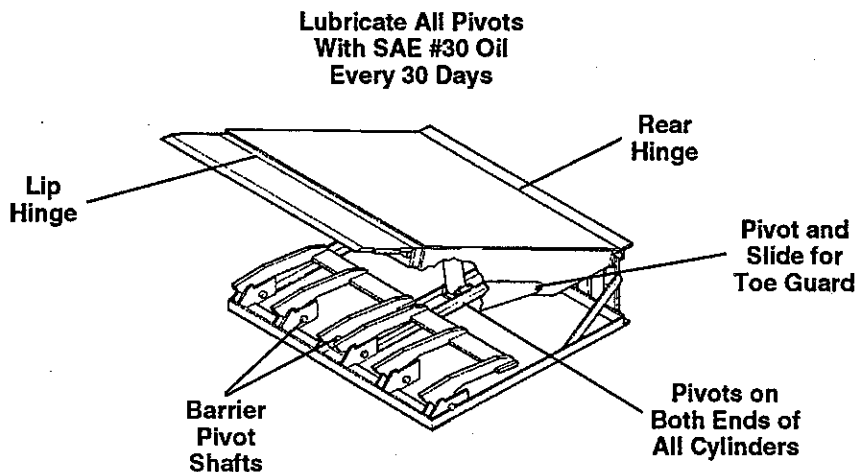

Fig. 8. Lubrication Chart
1. Lubricate the unit as shown in Figure 8. Failure to properly lubricate the unit will cause abnormal operation of the unit.